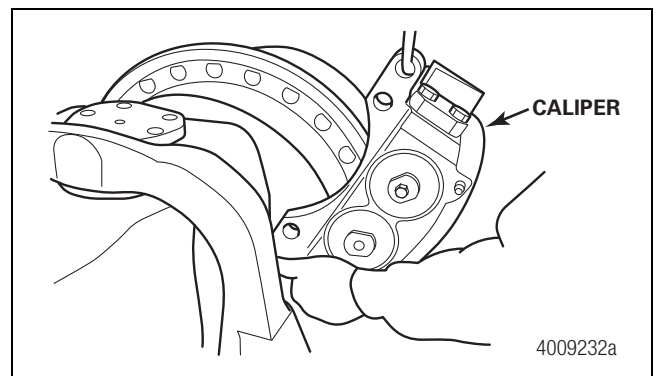

Figure 9.8
3. Remove the last caliper mounting bolt and remove the caliper from the wheel end. Figure 9.8.